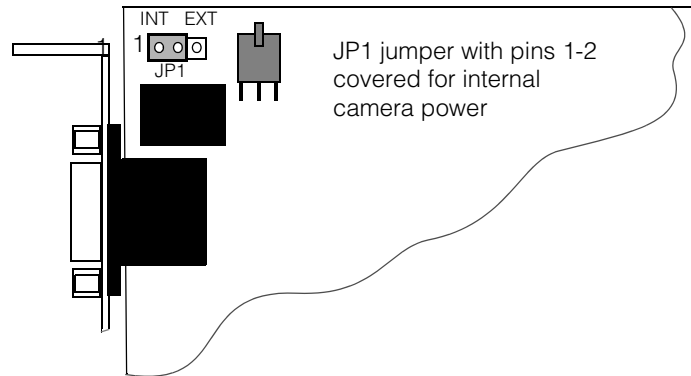

Figure 2. JP1 jumper position for internal camera power
- Select the source of +12 V camera power by positioning jumper JP1. Figure 2 shows the JP1 jumper position for internal camera power. The total available power with the jumper in this position is approximately 750 ma for *all* installed cameras.